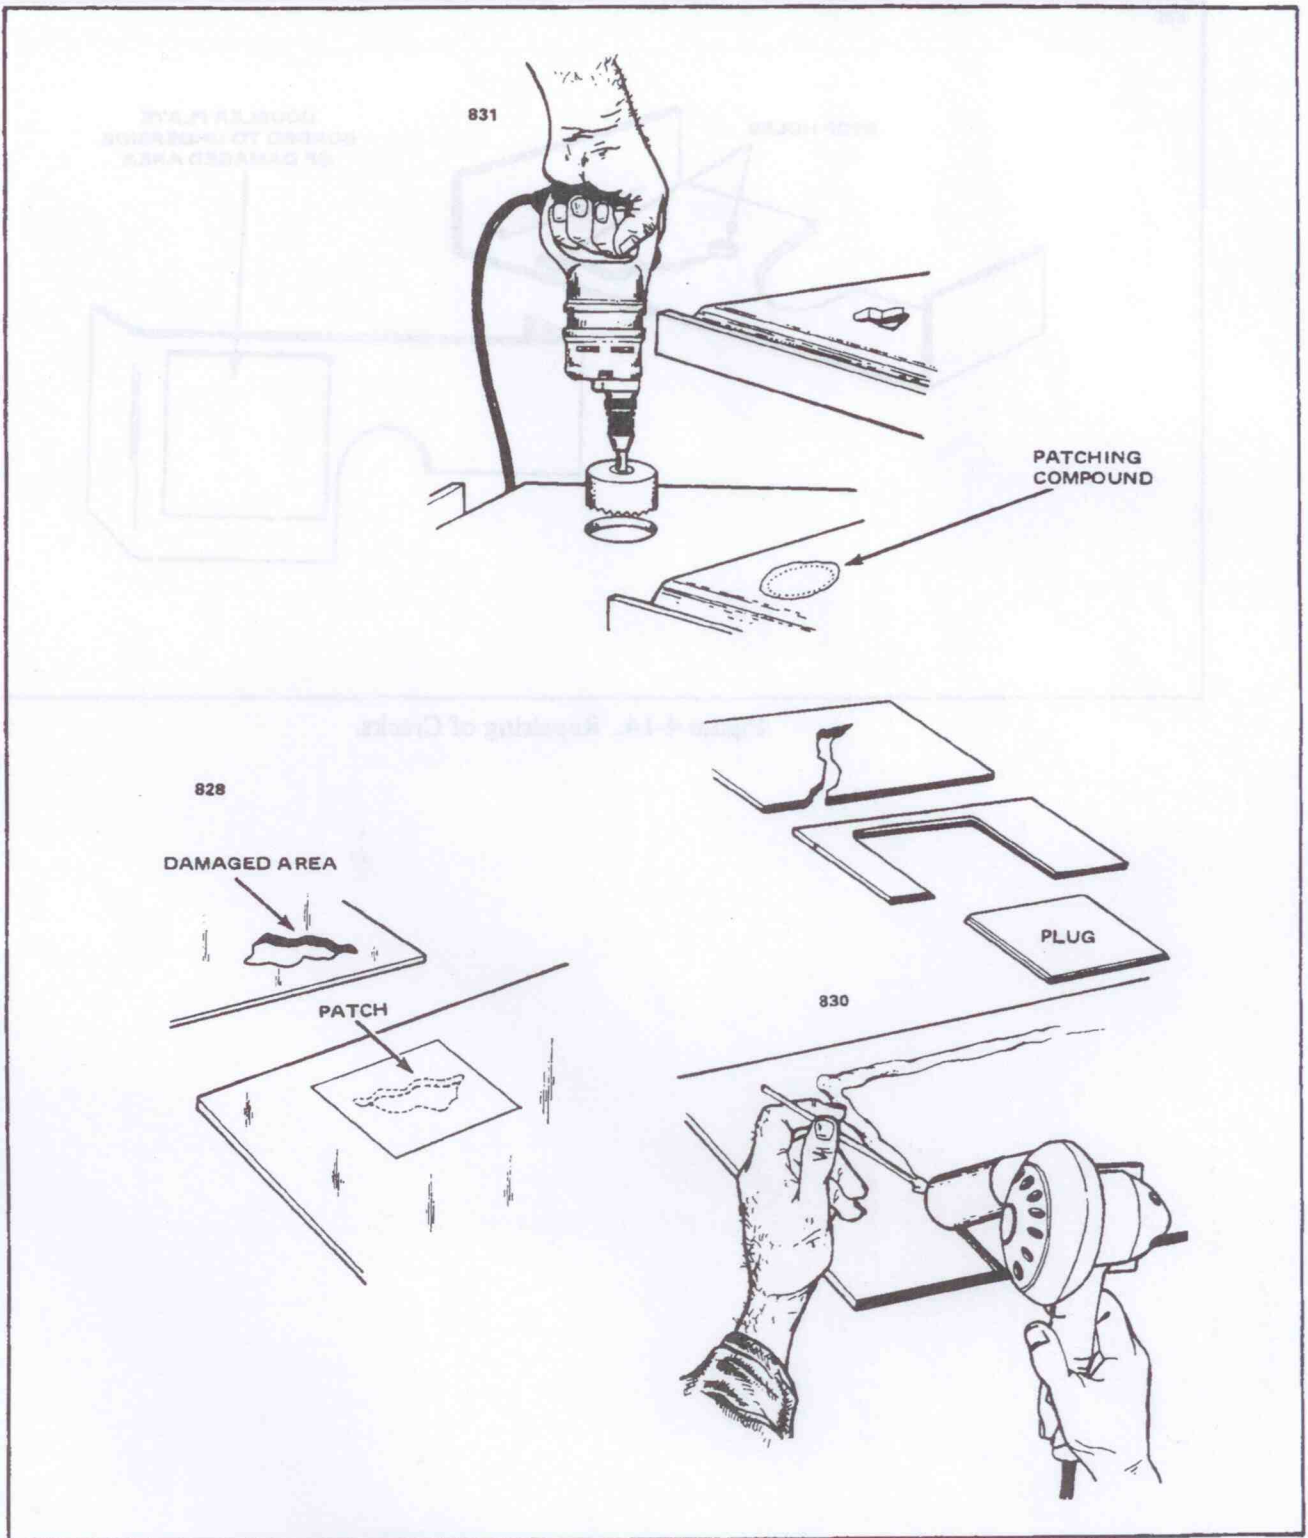

Figure 4-15. Various Repairs.
e. Repairing Major Damage: (Larger than 1 inch in diameter.) (Refer to Figure 4-15.)